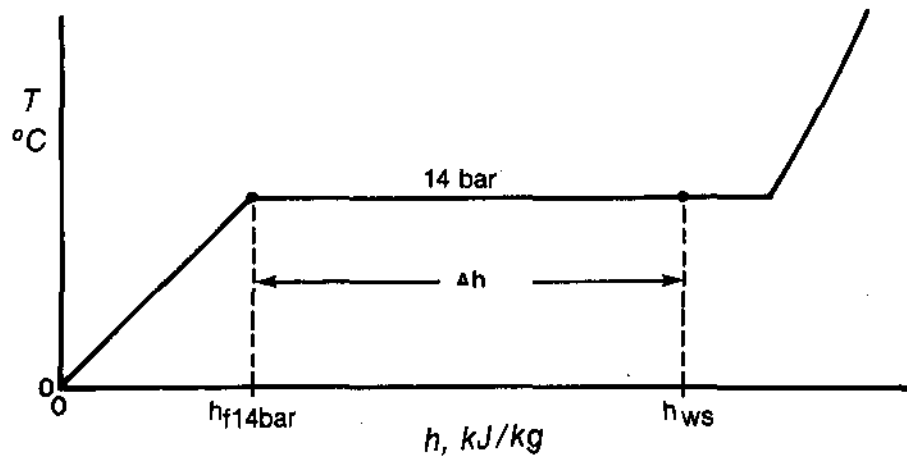

Figure 1.20
1.23) In this case, Δh is $h_{ws} - h_{f14bar}$. Since there is no mention of temperature change, we will assume the wet steam to be at 14 bar. This is shown on Figure 1.20:
By inspection of Figure 1.20, you will see that Δh is the same as the percentage of latent heat added to the saturated liquid. Since the steam is 10% wet, 90% is the percentage of latent heat added.